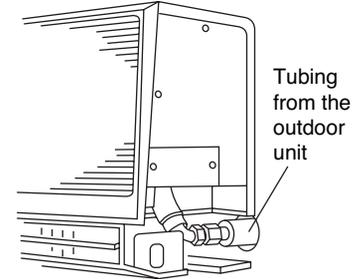

Fig. 3-49
- (b) Extend the gas tube from the outdoor side and connect it directly to the mating tube inside the indoor unit. Use a flare nut. (Fig. 3-49)